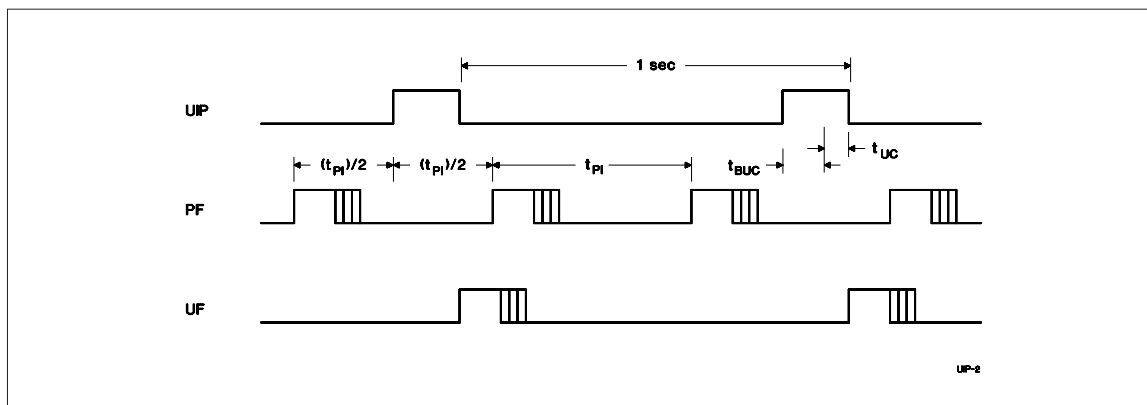

Figure 3. Update-Ended/Periodic Interrupt Relationship
- Enable the update interrupt event to generate interrupt requests at the end of the update cycle. The interrupt handler has a maximum of 999ms to access the clock bytes before the next update cycle begins (see Figure 3).
- Poll the update-in-progress bit (UIP) in register A. If UIP = 0, the polling routine has a minimum of  $t_{BUC}$  time to access the clock bytes (see Figure 3).
- Use the periodic interrupt event to generate interrupt requests every  $t_{PI}$  time, such that UIP = 1 always occurs between the periodic interrupts. The interrupt handler will have a minimum of  $t_{PI}/2 + t_{BUC}$  time to access the clock bytes (see Figure 3).